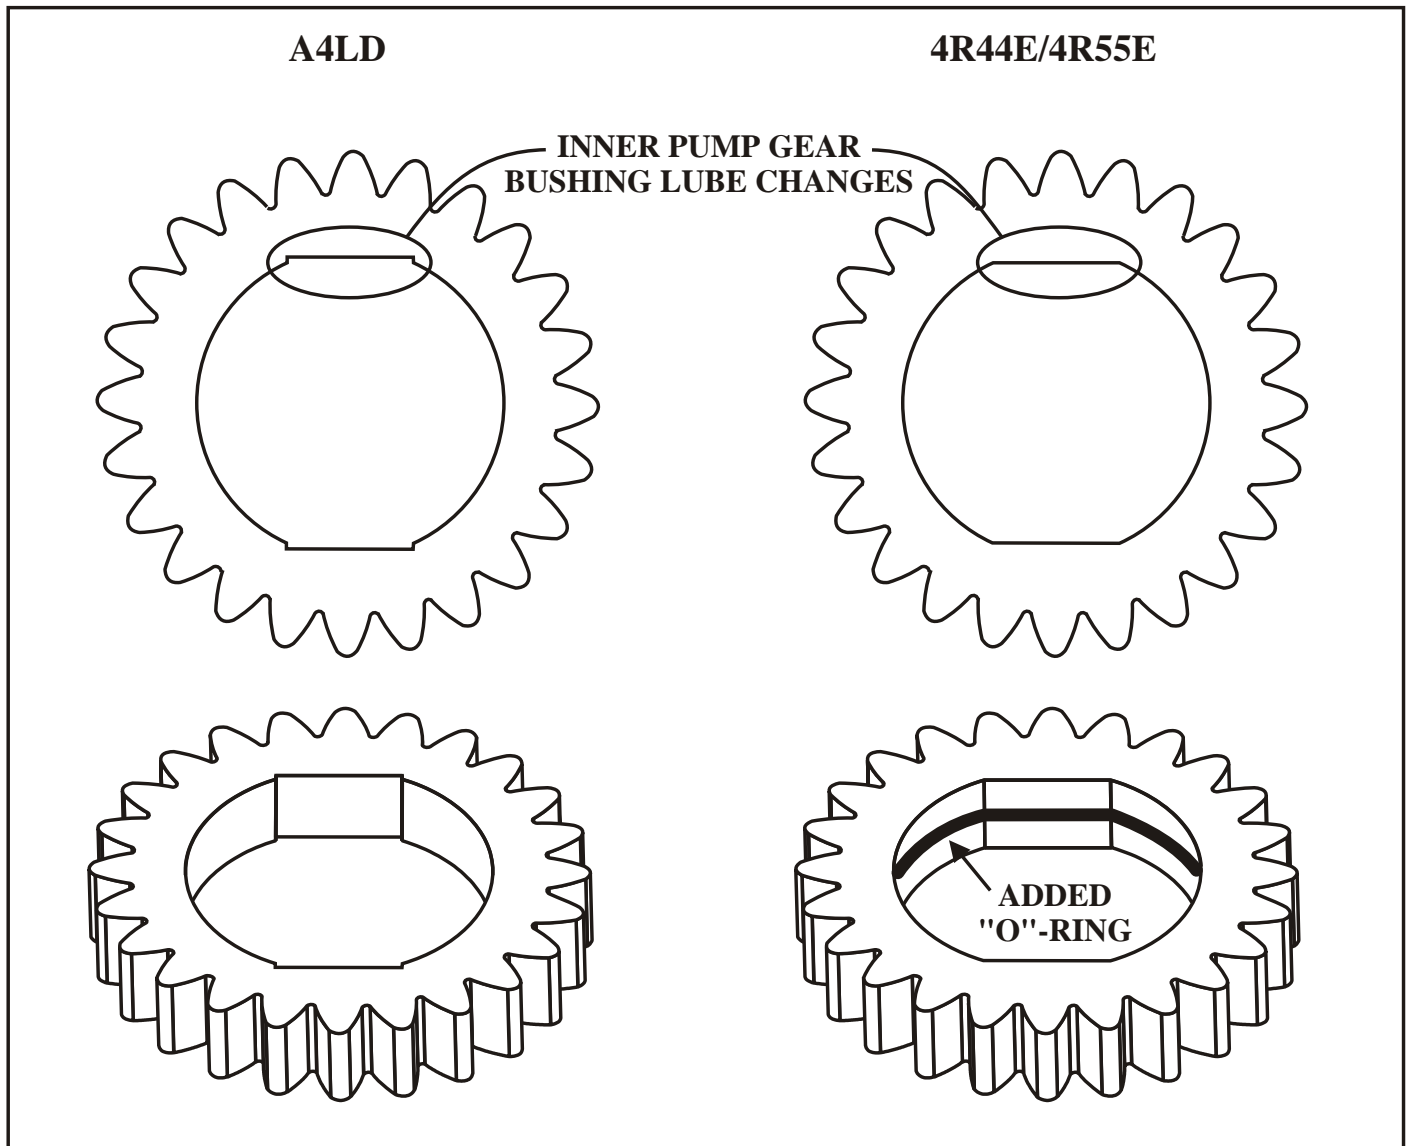

Figure 5
- (5) INNER PUMP GEAR - The 4R44E/4R55E inner pump gear has an easily missed change to the inside diameter and an "O" ring added in a new groove on the inside diameter to accommodate the re-routing of converter hub bushing lubrication, as shown in Figure 5.